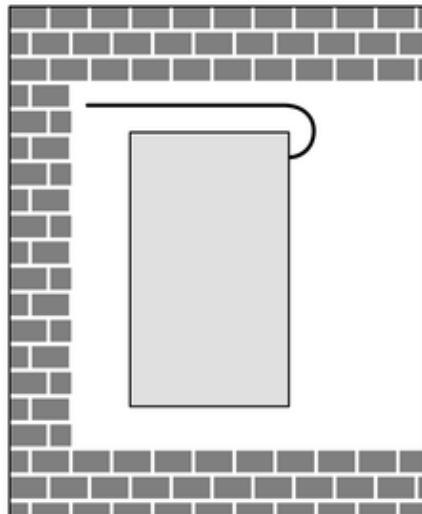

Figure 4: Installation in appliance box
- i** Lay the antenna stretched out freely if possible (Figure 4).